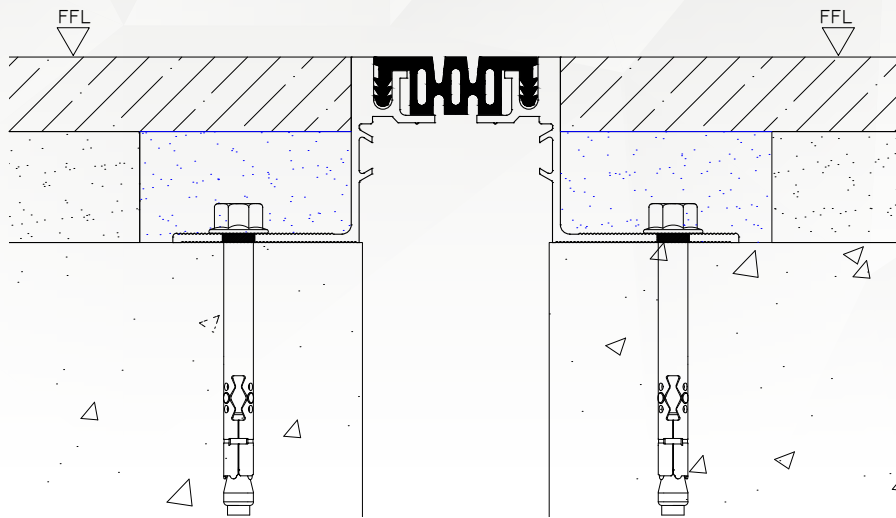
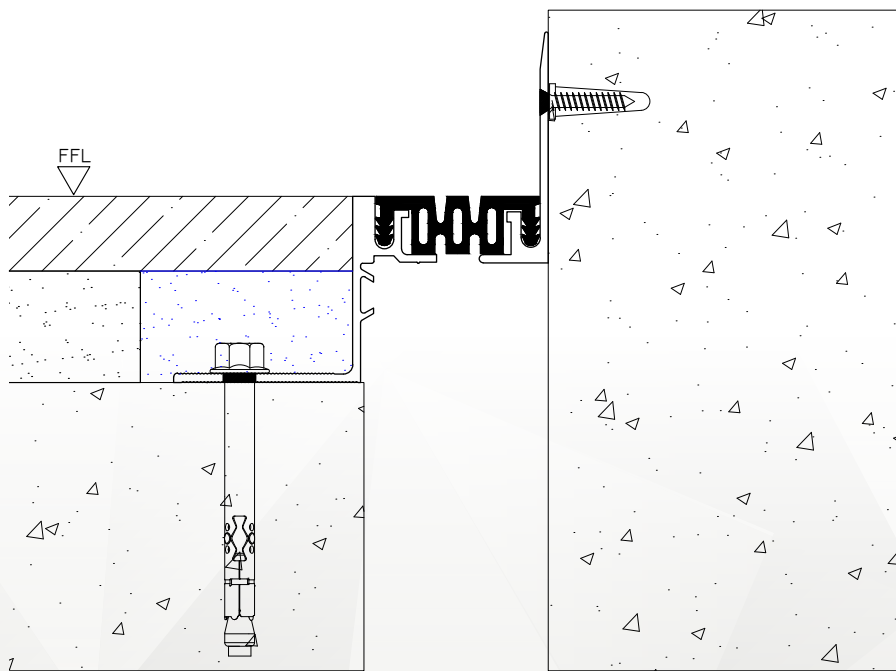

Figure 12.
Figure 13.
14. Install finish floor material, if any, at this time (see Figure 12 and Figure 13). Install finish floor material in accordance with the instructions provided by the finish floor material manufacturer.